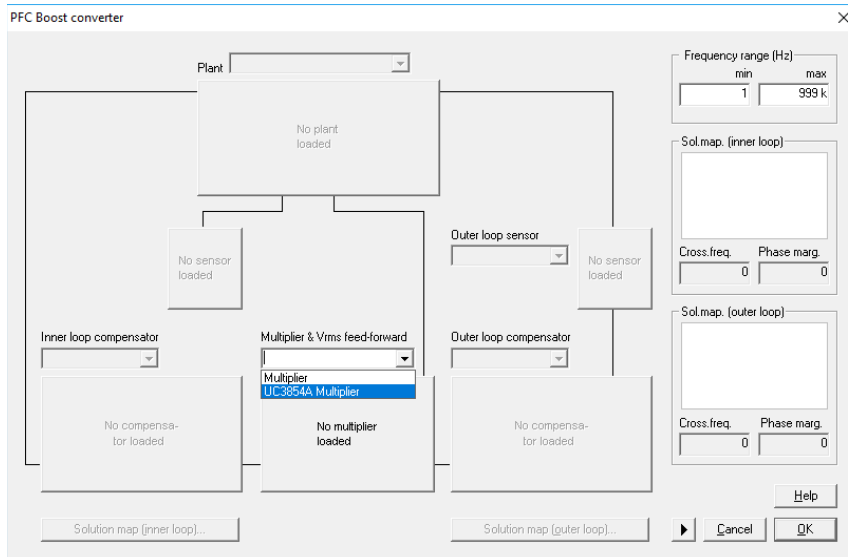

Figure 4: Inner loop multiplier
1. Select the Multiplier UC3854A as shown in Figure 4.